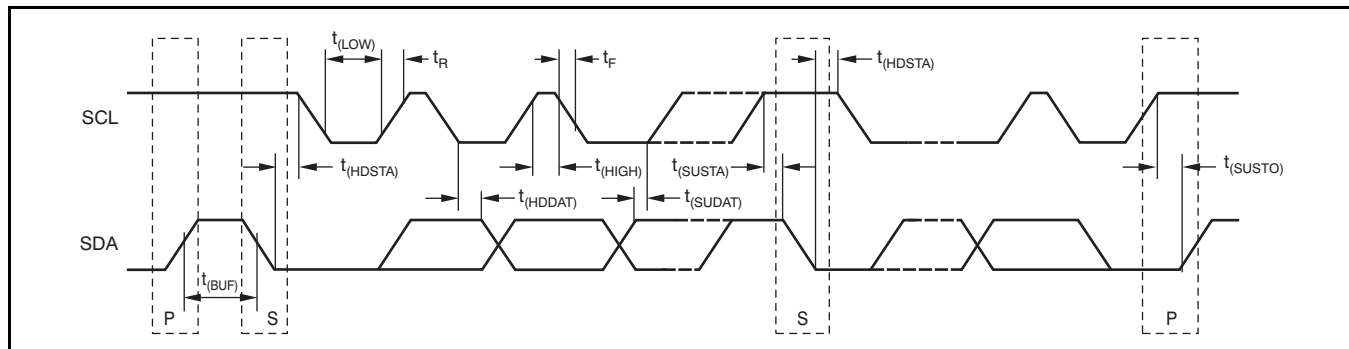

Figure 16. Two-Wire Timing Diagram
Figure 16 describes the timing operations on the BUF18830. Parameters for Figure 16 are defined in Table 5. Bus definitions are:
**Start Data Transfer:** A change in the state of the SDA line, from high to low, while the SCL line is high, defines a START condition. Each data transfer is initiated with a START condition, denoted as *S* in Figure 16.
**Stop Data Transfer:** A change in the state of the SDA line from low to high while the SCL line is high defines a STOP condition. Each data transfer terminates with a repeated START or STOP condition, denoted as *P* in Figure 16.
Table 5. Timing Characteristics for Figure 16